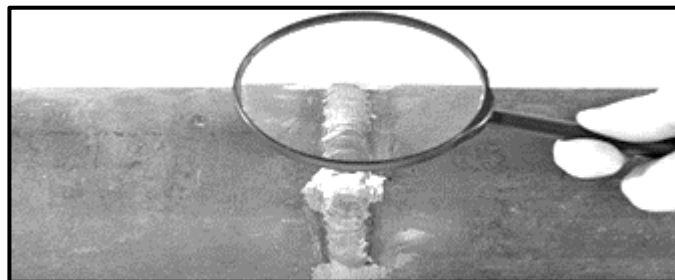

FIGURE 4.11
- 4.11 FIGURE 4.11 below shows a test being carried out. Identify the type of test.